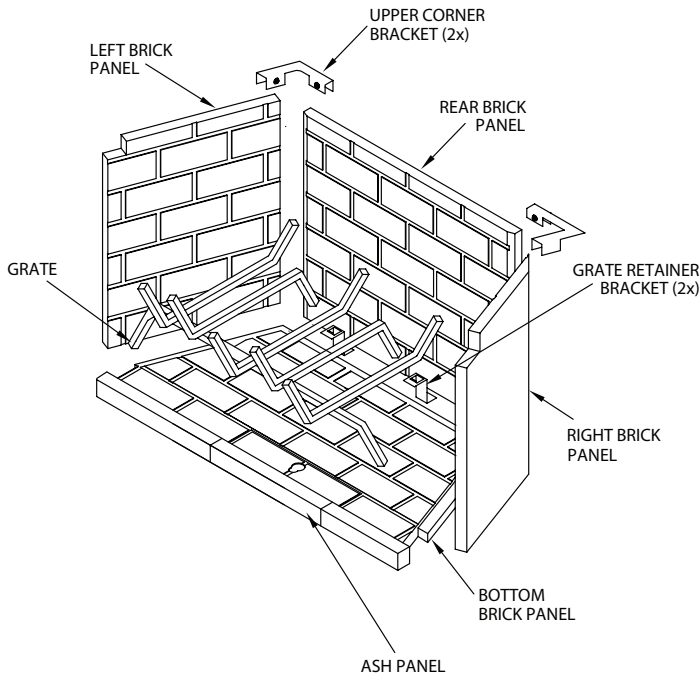

**Figure 20 - Installing Grate Retainers**
3. Position "Z" shaped grate retaining brackets on top of the notched area toward the rear of the bottom refractory. They should be positioned a distance apart as shown in Figure 20.